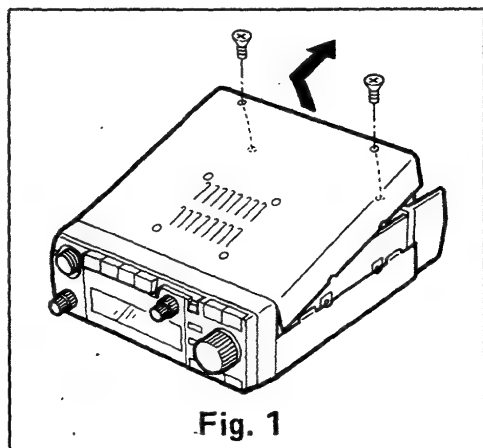

Fig. 1
- 1) Remove 2 screws from the bottom cover and remove the cover. (Fig. 1)